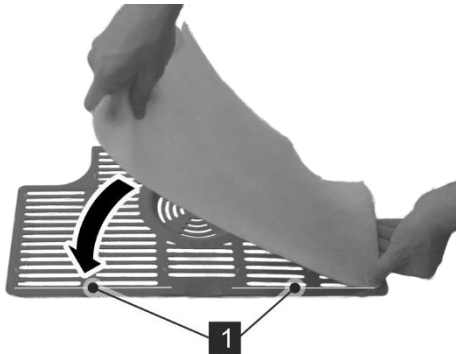

Fig. 30: Attaching the cleaning filter
3. → Stick the new cleaning filter onto the intake grille with the adhesive side along the marking (Fig. 30/1).